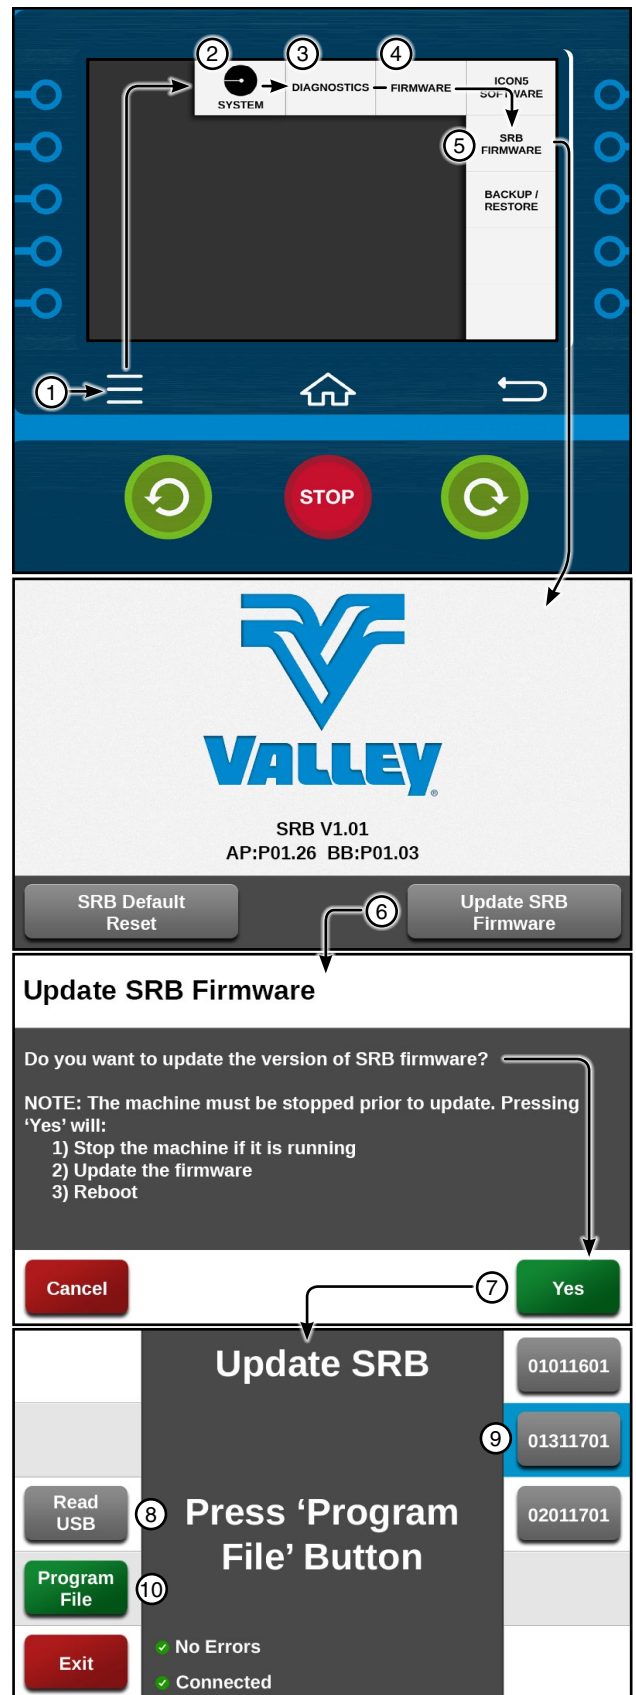

Figure 85-1
- To manually execute a firmware update, refer to Figure 85-1 and do the following: